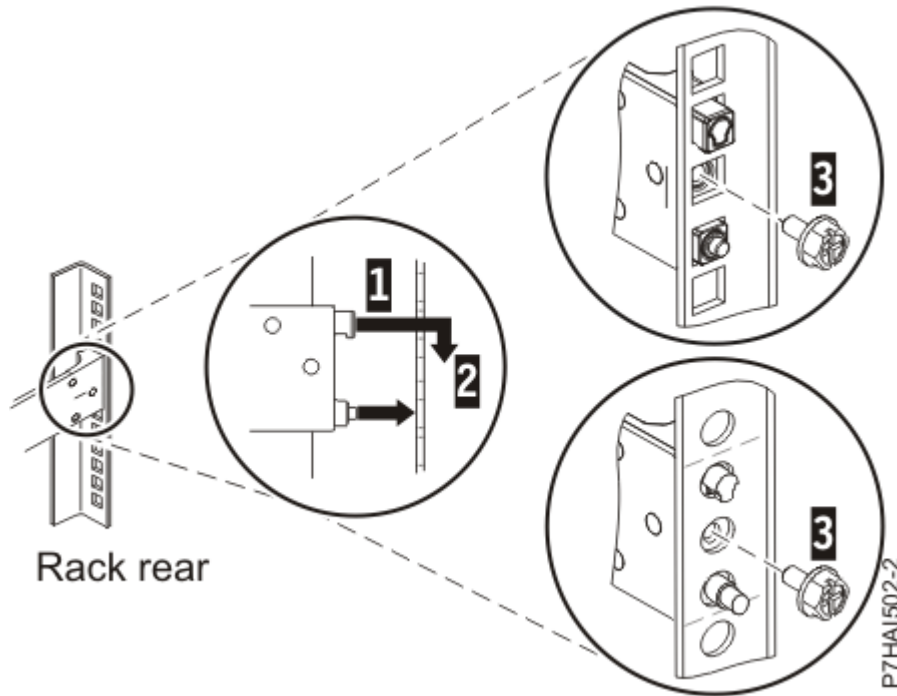

Figure 3: Aligning and engaging the pins into the holes in the rear of the rack
3. Align the two pins located on the rear of the slide rail with the top and bottom holes within the selected EIA unit that were previously marked. Pull the slide rail toward you to insert the two pins into the rack holes **(1)**, and lower the slide rail down **(2)** to engage the hook feature on the top pin. For details, see Figure 3 on page 5. Ensure that the two pins protrude through the rack holes before you proceed to the next step.